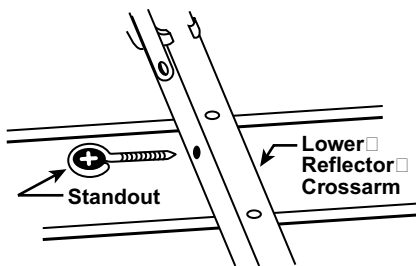

Fig. 6
5. Attach transmission wire (or balun, if coax installation) to tap-off terminals at the bottom of the UHF dipole, as shown in Fig. 6 (or 6A if a straight UHF dipole).